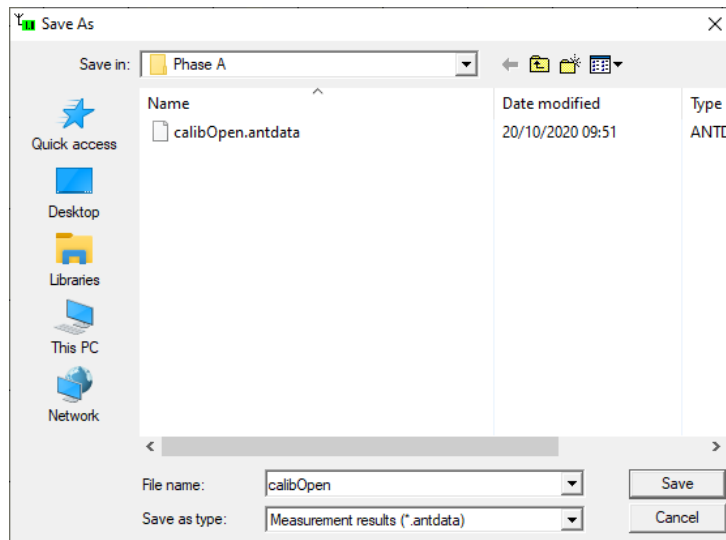

Figure 9-33: Save As “calibOpen”
4. Select **File > Save As** and type the filename `calibOpen` as shown in Figure 9-33.